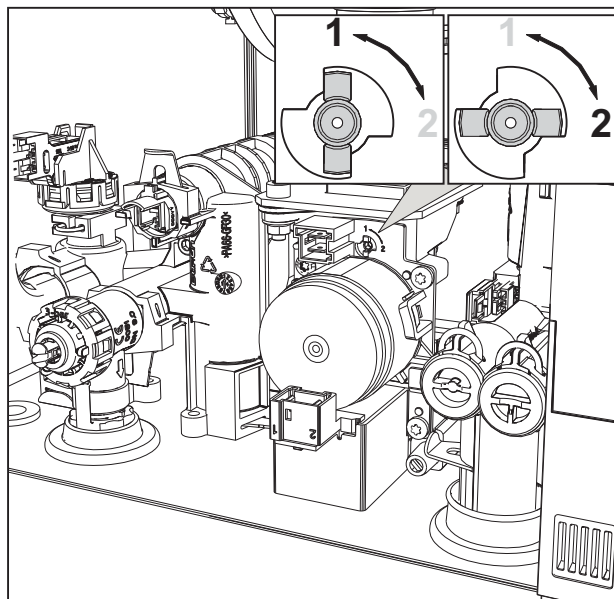

fig. 30
3. Turn the Throttle (fig. 30) according to the position indicated in table 9.